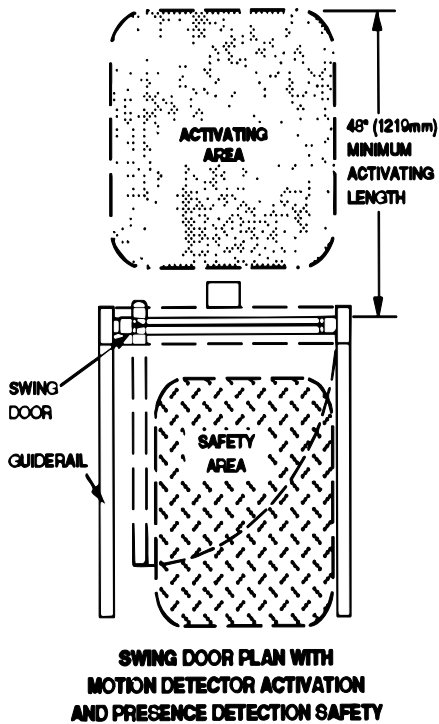

Figure 1
- If the door is equipped with an overhead mounted presence sensor, as long as you are in the safety area of the door it should not open. (See Figure 1)